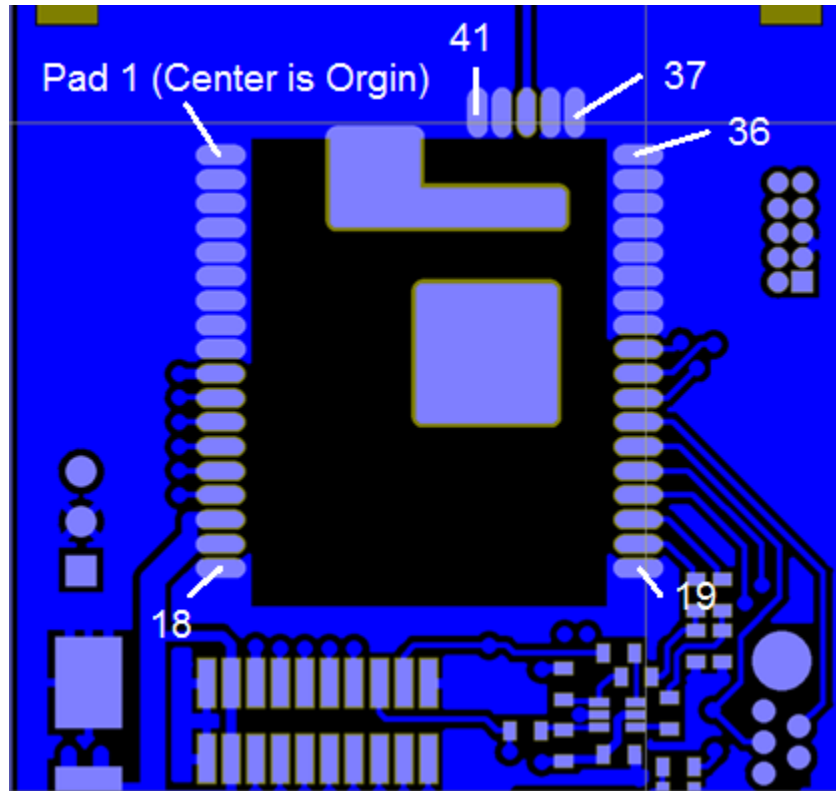

Figure 11: Pad definitions with respect to top of carrier board
- “Horizontal” and “Vertical” refer to the orientation in Figure 11, with “positive” being up and to the right.